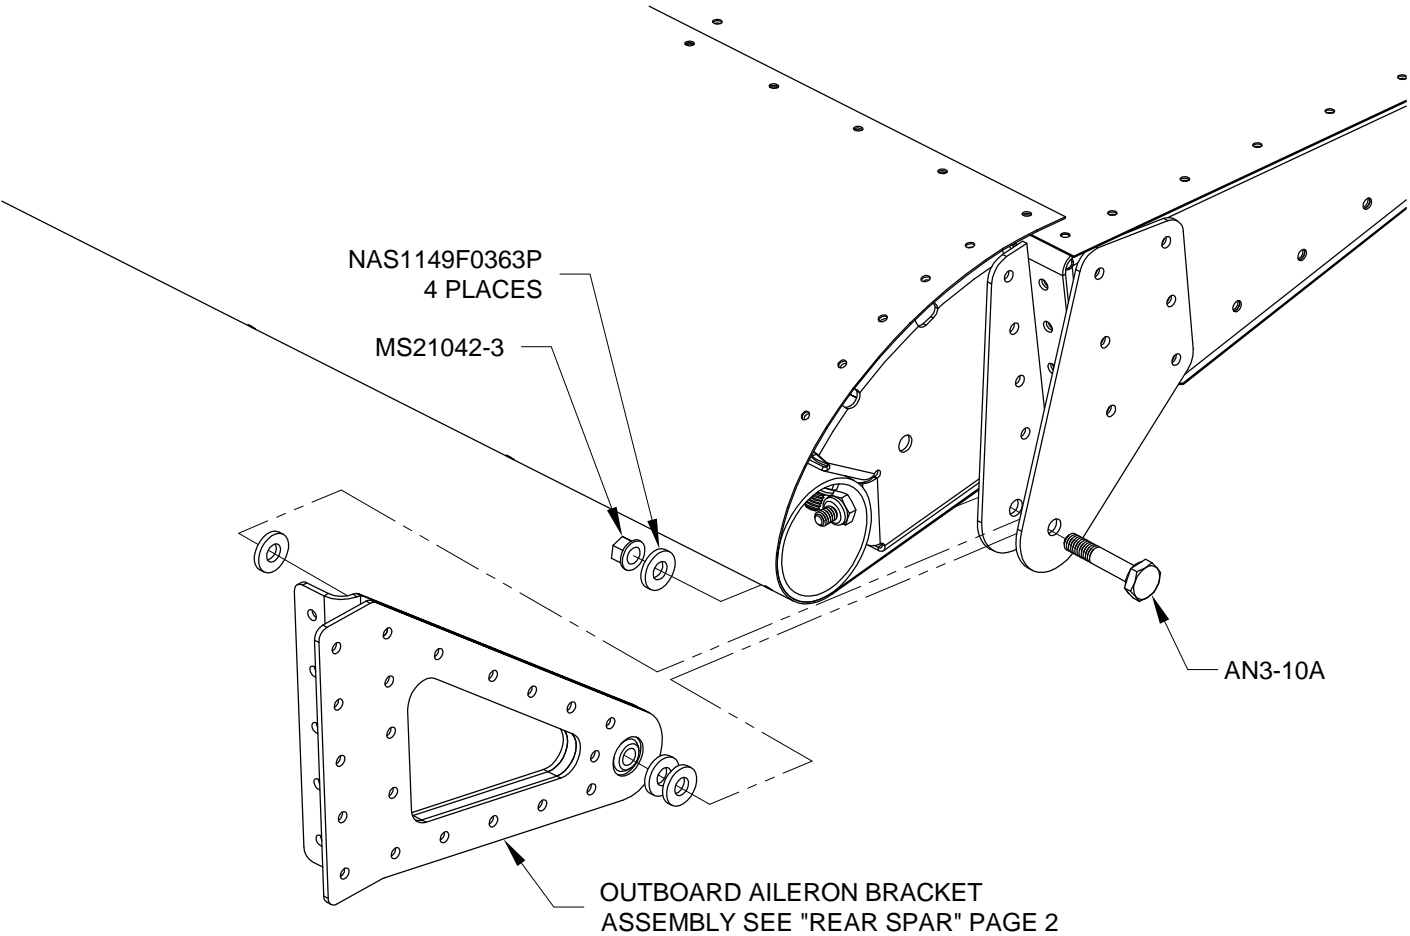

FIGURE 2: OUTBOARD HINGE BRACKET ATTACH HARDWARE
Step 2: The hardware called-out in Figure 2 for attachment of the outboard hinge bracket to the wing will be used during completion of the aileron actuation system as covered in the "Aileron Actuation" section of the manual.